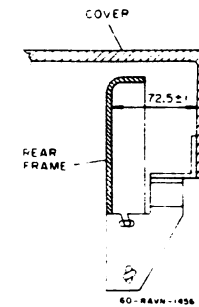

Figure 4. Adjusting the Top Cover to Rear Frame
5. ADJUST COVER SO THAT DISTANCE FROM REAR FRAME IS  $72.5 \pm 1.0$  mm (FIGURE 4).